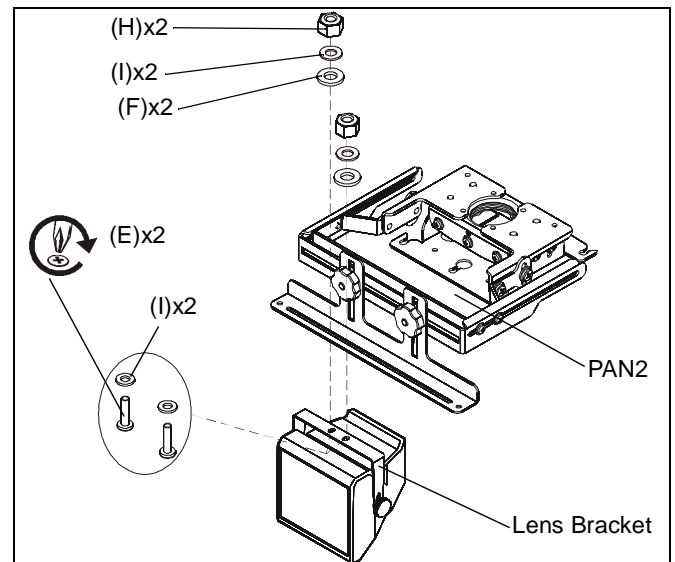

Figure 4
NOTE: The lens bracket attachment method depends upon the type of lens bracket being used. See Figures 4 and 5.
1. Attach the lens bracket to the PAN2 using two M4-.7x16mm Philips head screws (E), two 4mm washers (F), two 4mm locking nuts (H), and four spacers (I). (See Figures 4 and 5)